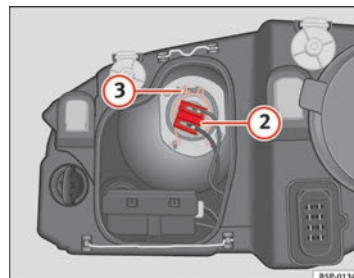

Fig. 165 Dipped beam headlights
- Remove the connector ⇒ fig. 165 ② from the bulb.
- Unclip the retainer spring ⇒ fig. 165 ③ pressing inwards to the right.